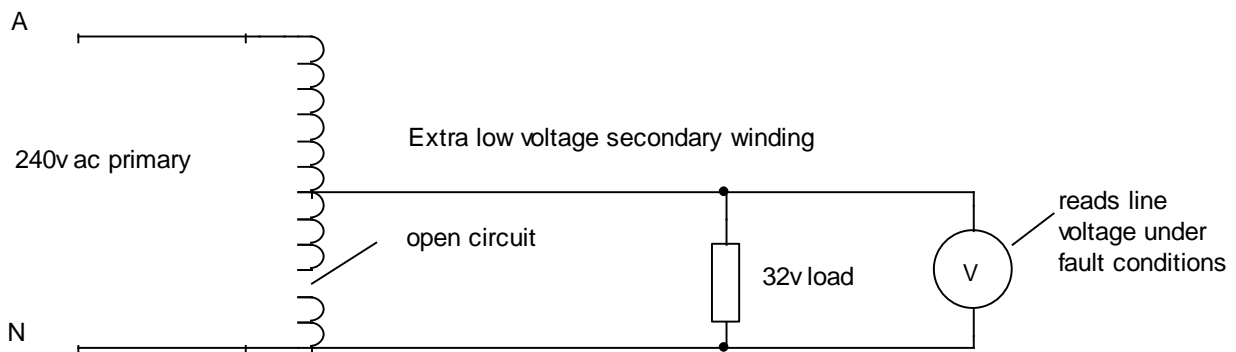

Figure 6 - Autotransformer with an open circuited winding.
8. Although the benefits of using an autotransformer are considerable, there is a significant disadvantage. If the shared portion of the winding was open-circuited during operation, as shown in figure 6, the full line voltage would exist between the open circuit and the neutral- this is usually an extremely hazardous situation.